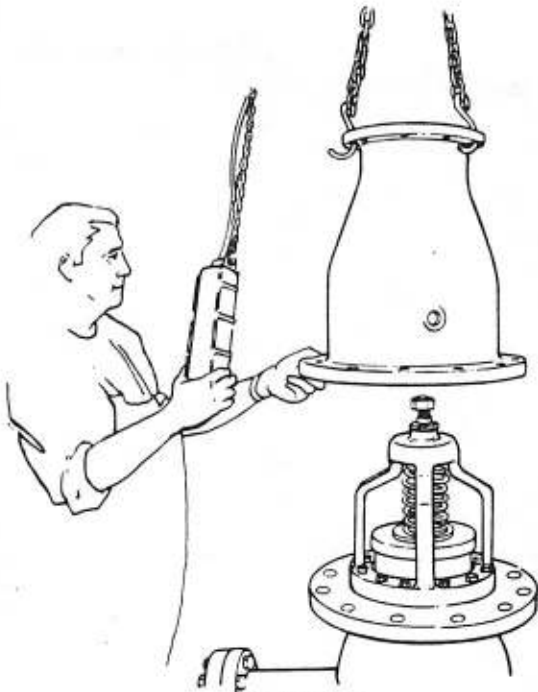
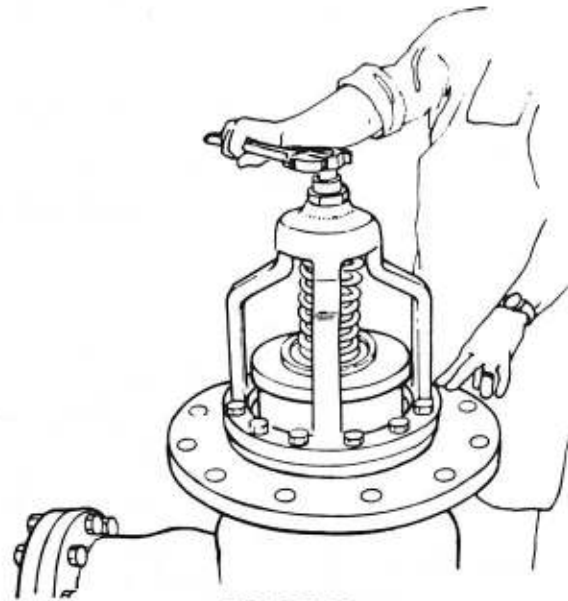
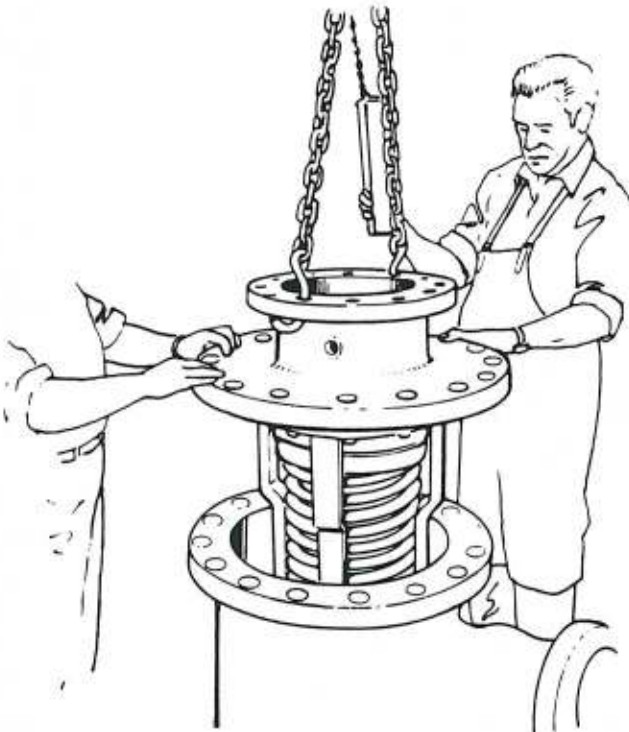

FIGURE 31
FIGURE 33
FIGURE 32
- b. Remove outlet adapter flange bolts, and lift off the outlet adapter (see Fig. 31).
- c. Remove the 8 seat cap screws (5) adjacent to the legs of the spring retainer (3) and lift the check valve assembly off with a hoist, or disassemble in place. (See Step 3.)
- e. Break union in control line and lift off inlet adapter with a hoist (Fig. 32).
- f. Remove the 8 seat cap screws (5) adjacent to the legs of the spring retainer, and lift the valve assembly off the inlet adapter with a hoist or disassemble in place. (See Step 3.) Both check valves are now ready to be disassembled.
- a. Remove the valve stem nut (1) and valve stem (8) (Fig. 33).